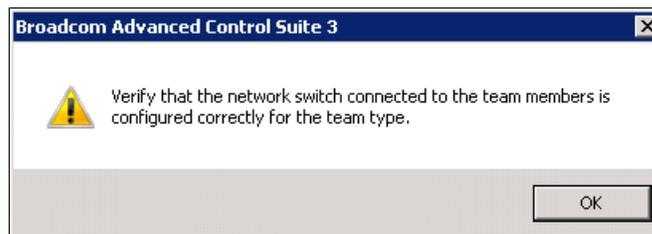

Figure 9-35 Verification message window
6. When you see the verification message window (Figure 9-35), verify and confirm that the switch is configured correctly. This message applies only to teaming modes that require LACP or EtherChannel configuration on the switch modules. Then click **OK**.